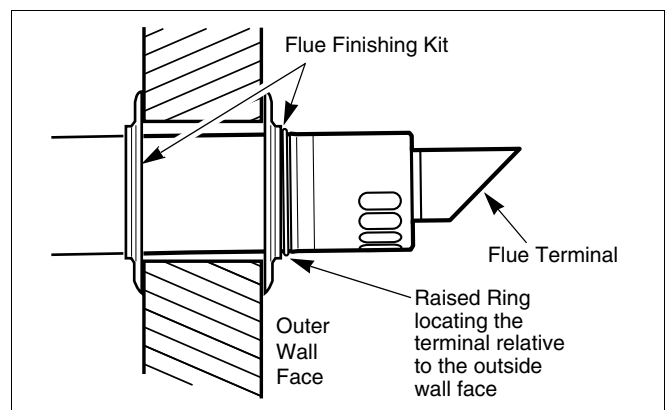

fig. 19 Flue terminal position
- Mark of the lengths shown onto the ducts and cut the length. The cuts must be square and free from burrs. Terminal assembly outer (air) duct - L-70 mm, inner (flue) duct - L-50 mm. The measurement is made from the ridge at the terminal indicating the outer face of the wall. Refer to figure 19.